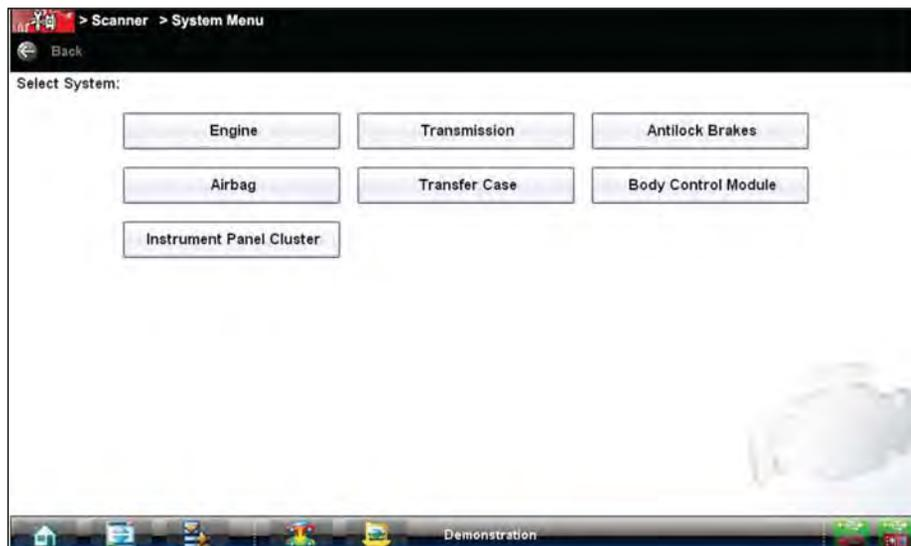

Figure 5-10 Sample available tests list
4. Select **OK** and a list of systems available for testing on the vehicle displays (Figure 5-10).